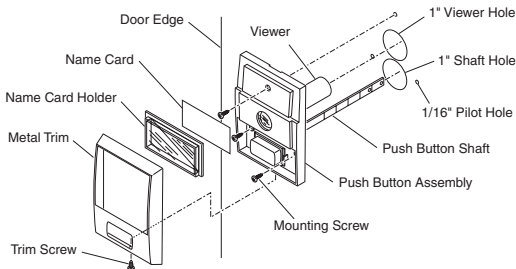

Figure 1 - Attaching Push Button Assembly to Door
2. Using the template provided, mark the location of the mounting holes parallel to the edge of the door (see Figure 1). *Note:* It is important that the holes are parallel to the edge of the door for proper operation of the chime.
See Figure 1 for push button assembly.
1. Remove metal trim screw, metal trim, name card holder, and name card from push button assembly to locate mounting holes (see Figure 1).
2. Insert viewer and push button shaft into predrilled until push button assembly is flush against door face. Attach using the three mounting screws provided (see Figure 1).
4. Place metal trim over push button assembly and name card holder. Secure trim with trim screw (see Figure 1).